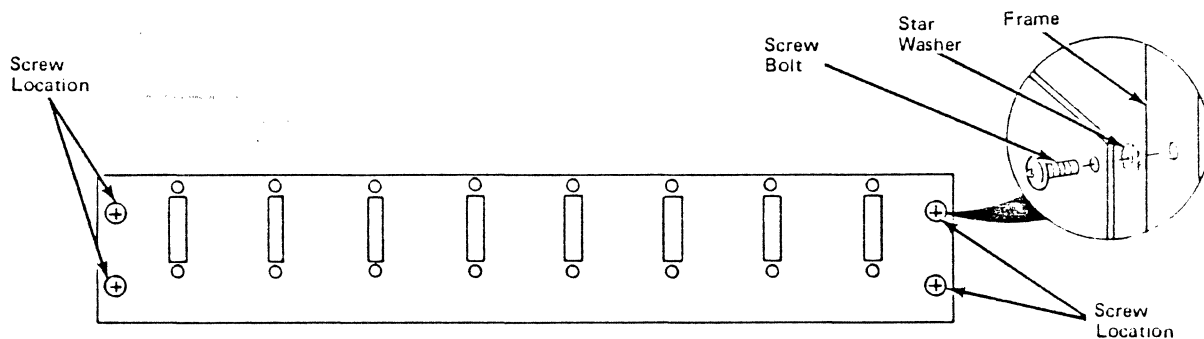

Figure 9-11. Screw Locations for I/O Panels
- Remove the four screws that secure the I/O panel to the I/O panel frame (Figure 9-11).